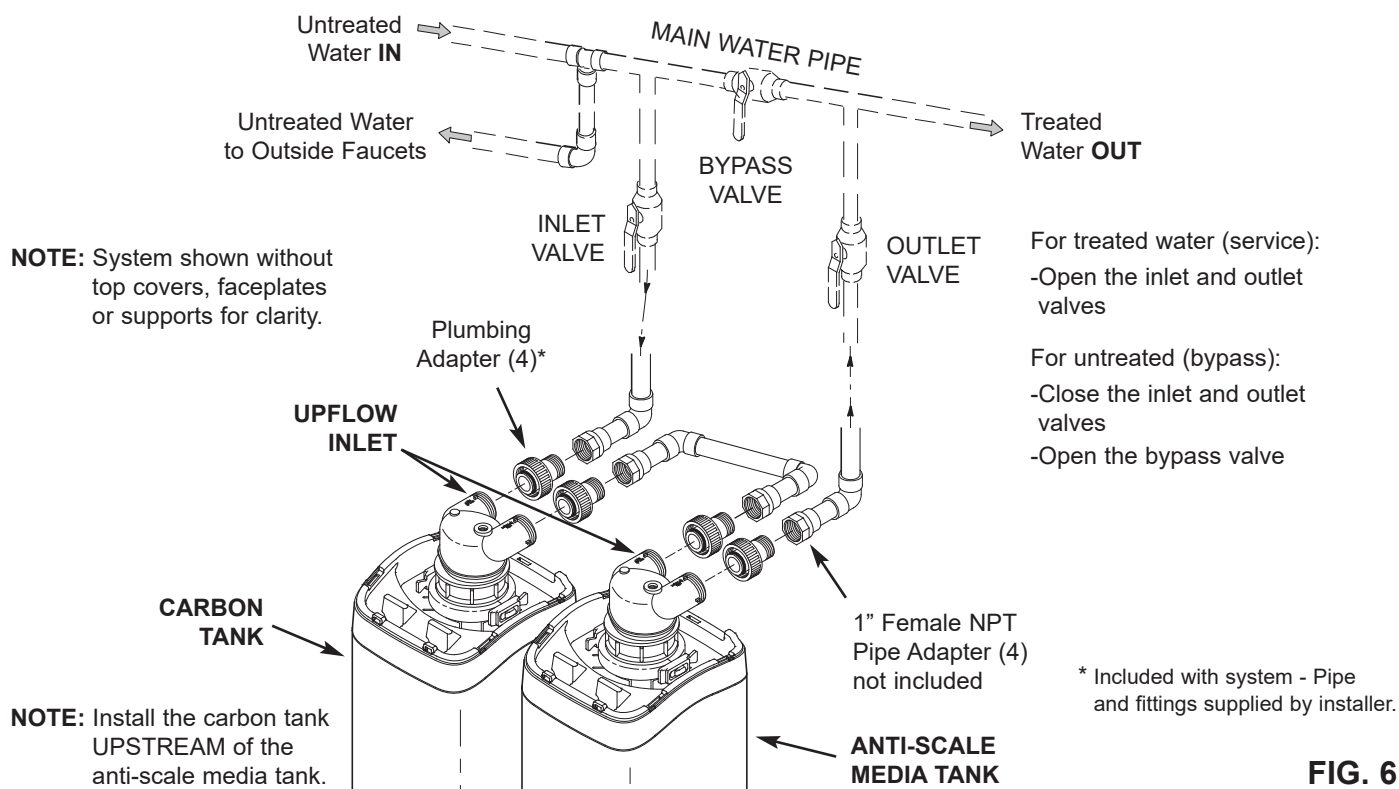

**FIG. 4**
- Place bypass valve(s) into BYPASS position. On a single valve, turn both handles perpendicular to water flow (See Fig. 4). On a 3 valve system, close the inlet and outlet valves, and open the bypass valve (See Figs. 3 & 6).